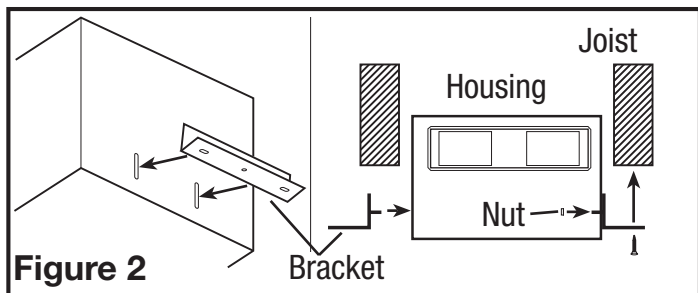

Figure 2
1. If the mounting brackets are not already in place, install both brackets through the top set of slots on the fan housing and secure in place with the four included nuts as shown. Center the fan housing between the joists and secure the mounting brackets with screws (not included) to the joist. Adjust the height of the housing so that it will be flush with the finished ceiling by loosening the mounting bracket nuts and sliding the housing up or down on the bracket. Full tighten all four nuts to secure the housing in place (Figure 2).